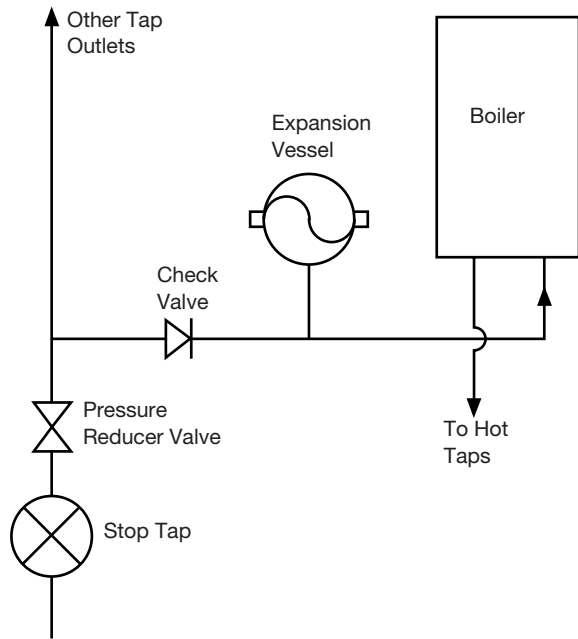

Fig. 7
6.8 Domestic Hot Water Circuit (Fig. 7)
3. A single check valve must be fitted as shown in Fig. 7 to prevent backflow to the supply pipe and to ensure the efficient operation of the expansion vessel which is required to accommodate the thermal expansion of the water.